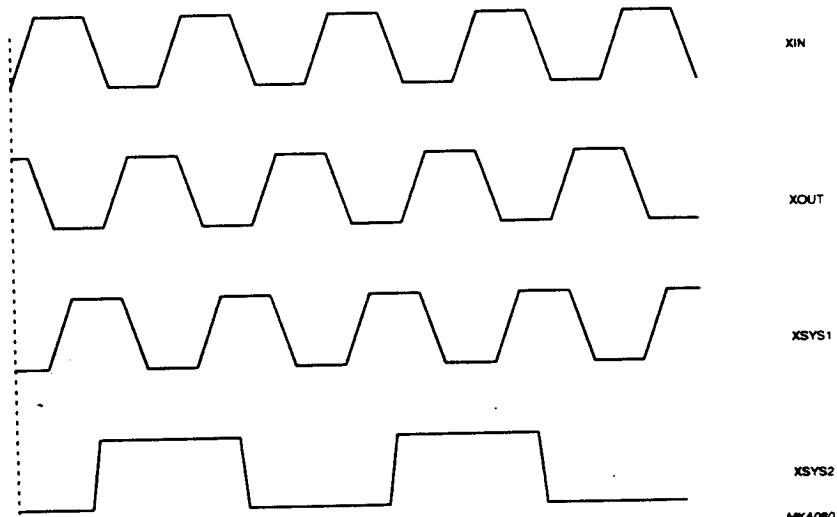

Fig.10 Relative clock timing.
6. Output times are measured with a capacitive load of 35 pF. XSYS2 is half the master clock frequency. See Fig.10 for relative clock timings.